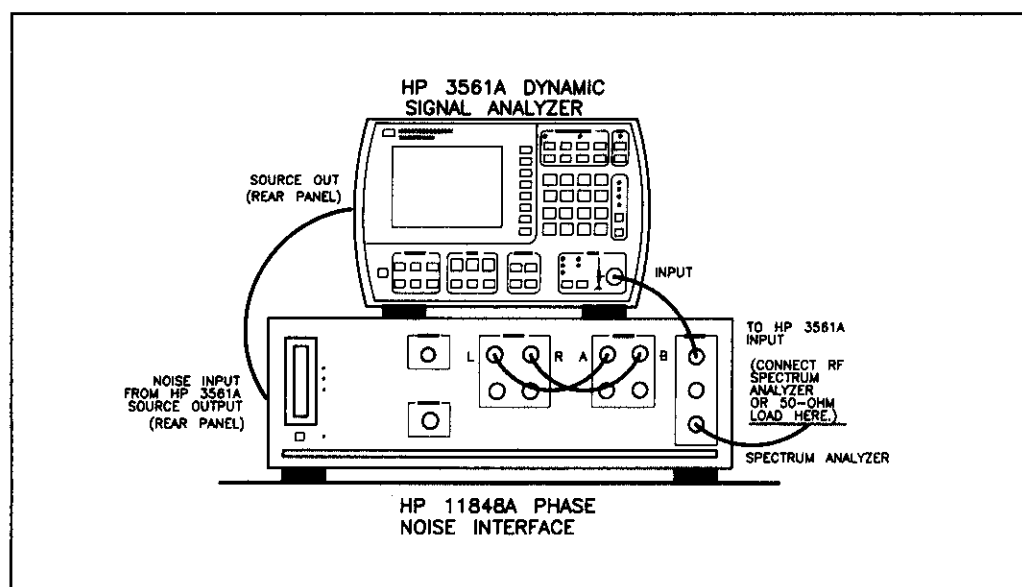

Figure 1. Quick Check Setup
10. Connect the HP 3561A input and the two 10 MHz source outputs to the HP 11848A as shown in the connect diagram on the computer display and in Figure 1. Note especially the rear-panel connections.